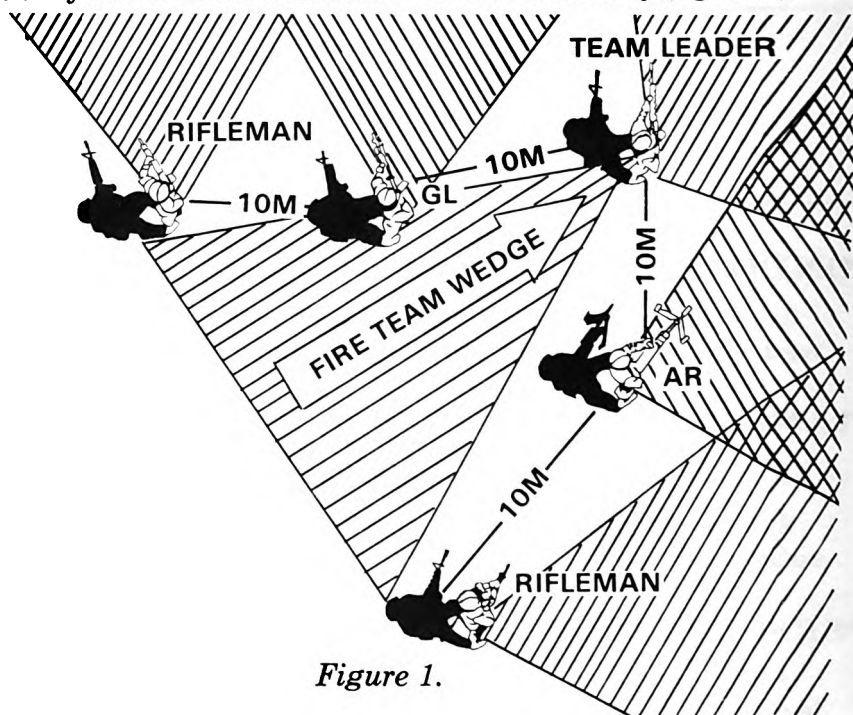

Figure 1.
- a. The normal interval in daylight is about 10 meters (figure 1).